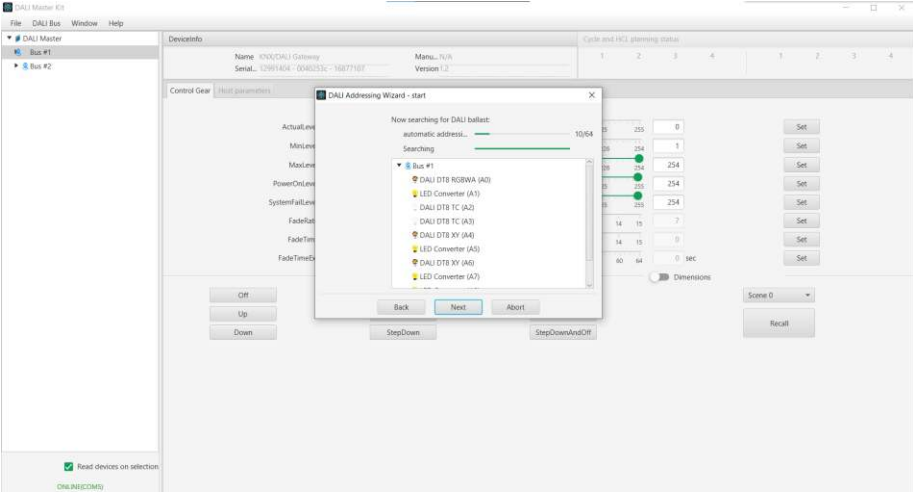

Figure 4
2.4. The DALI addressing process will start as shown in Figure 4.